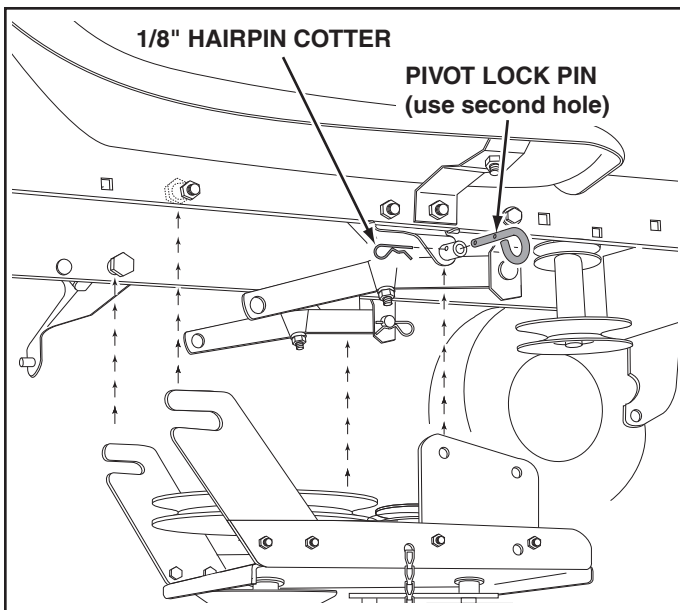

FIGURE 45
#### STEP 46: (SEE FIGURE 45)
**NOTE;** To prevent the chain from dragging on the ground, loop the end of the chain through the pivot lock pin. Refer to figure 45 on page 21.